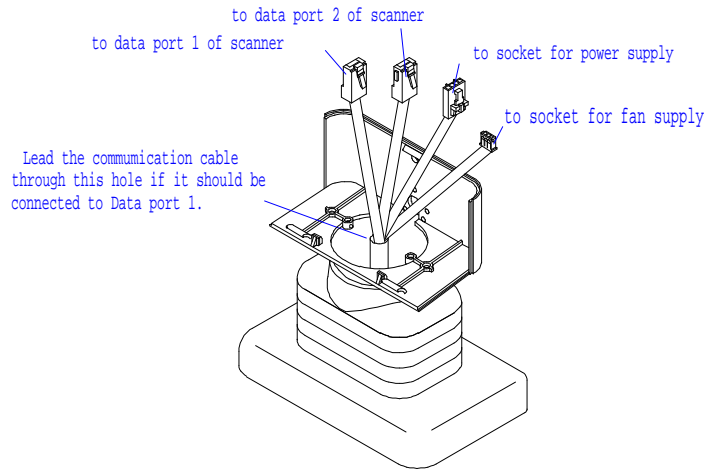

Figure 2.6
- Lead the communication cable with the 8 pin modular jack and the power supply cable from the bottom through the stand. Refer to figure 2.6 to locate the hole through which the cable should be led.